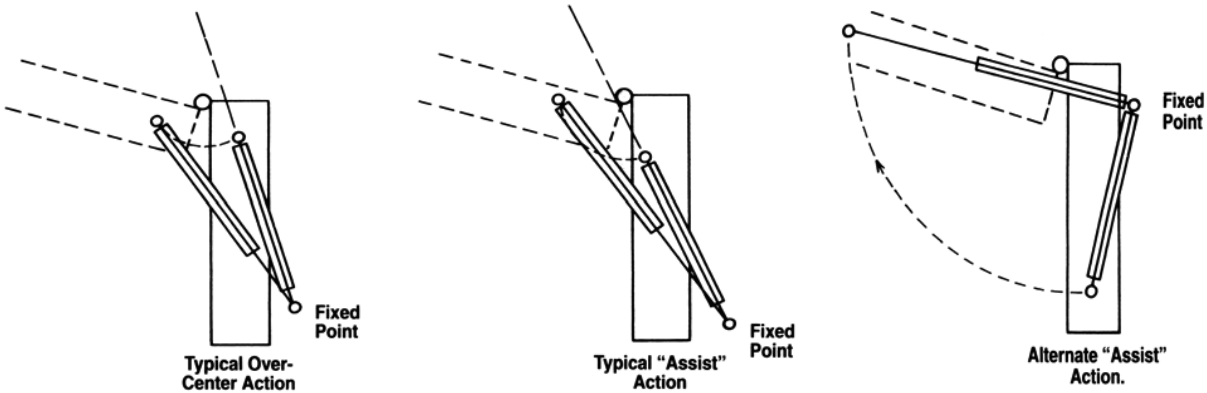

FIGURE 4 (includes all three diagrams)
12) Desired action using Pneu-Spring (Fig 4): check one
- to go over center installation provides two actions: (1) in the closed position, it keeps the door closed and (2) it provides an assist in opening the door